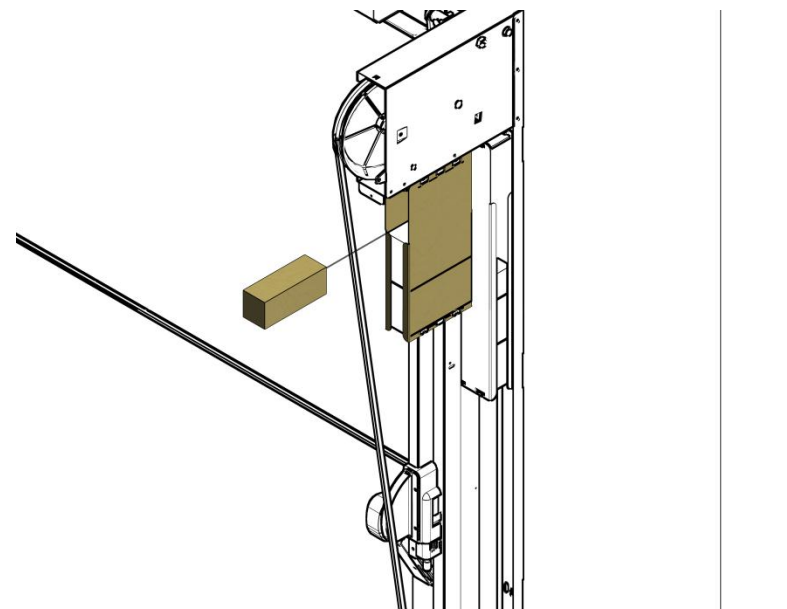

Figure 4-3 Right side only shown
3. If the lower section in open position tends to drop: with door closed, add weight units symmetrically to left and right large counterbalance boxes (Figure 4-3)
4. If the lower section opens too fast: with door closed, remove weight units symmetrically to left and right large counterbalance boxes (Figure 4-3)